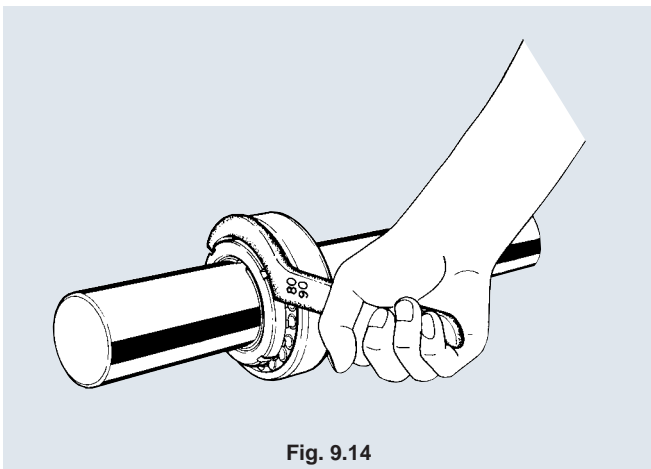

Fig. 9.14
- (6) To tighten the nut, use a spanner wrench illustrated in **Fig. 9.14**. When tightening the nut with a hammer and a drift, be sure that the chip from the drift does not enter the bearing.